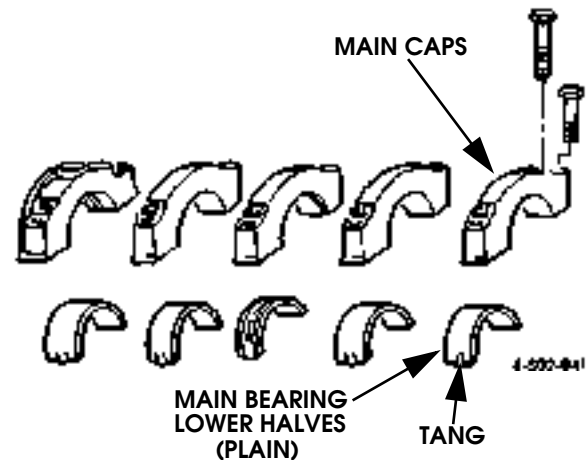

Figure 2-154: Assembling Main Caps and Bearing Lower Halves
4. Install main bearing lower halves in bearing caps (Figure 2-154). Install bearings dry and be sure each bearing locating tang is seated in bearing cap notch. Thrust bearing half goes in #3 main cap.